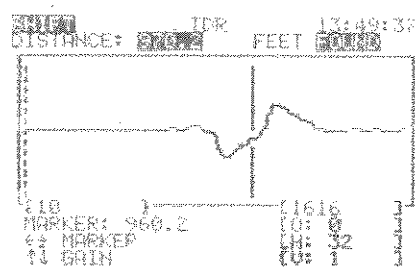

Figure 4-14 Fault found
- 8) When a fault is found, it appears on the screen. **FOUND** is displayed at the top right. Refer to Figure 4-14.